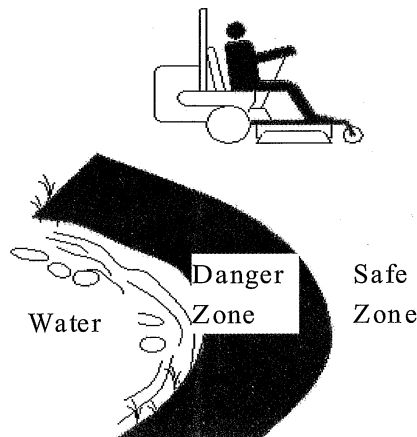

FIG 1
- Use a walk behind mower /or a hand trimmer near drop-offs, ditches, steep banks or water. This area can be dangerous, see Figure 1.